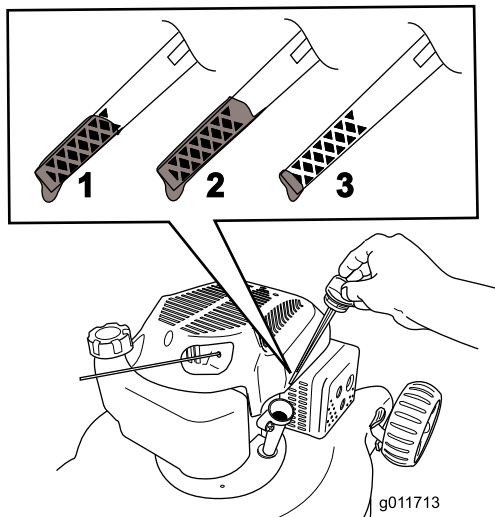

Figure 4
2. Remove the dipstick (Figure 4).
3. **Slowly** pour oil into the oil fill hole, wait 3 minutes, and check the oil level on the dipstick by wiping the dipstick clean and then inserting, **but not screwing in**, the oil fill cap into the hole (Figure 4).
Note: Fill the engine crankcase with oil until the dipstick indicates that the engine oil level is correct as shown in Figure 4. If you overfill the engine with oil, remove the excess oil as directed in Changing the Engine Oil.